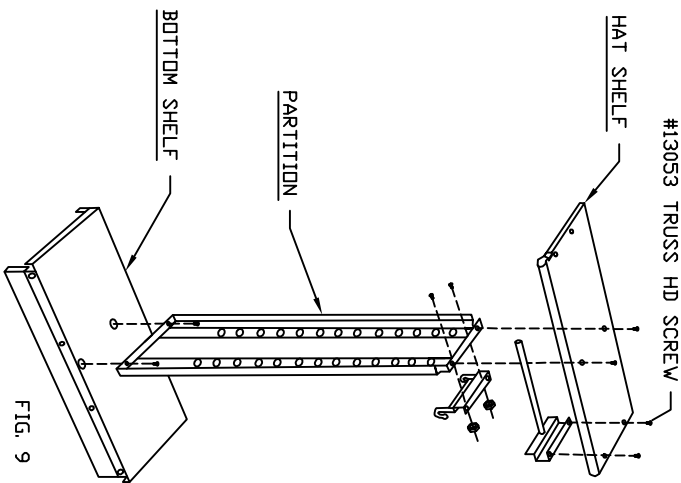

FIG. 9
3. FASTEN 2ND HANGER BAR BRACKET ON SIDE OF LOVERED PARTITION. SEE FIG. 9. PLACE PARTITION INTO CABINET WITH HANGER BRACKET'S FLANGE ON ANOTHER BOLT AT END OF SHELF AND SWING TOP OF PARTITION INTO PLACE UNDER SHELF ALLOWING HANGER BAR TO ENTER BRACKET ON PARTITION. FASTEN TOP FLANGE OF PARTITION TO BOTTOM SURFACE OF TOP SHELF. SEE FIG. 9.